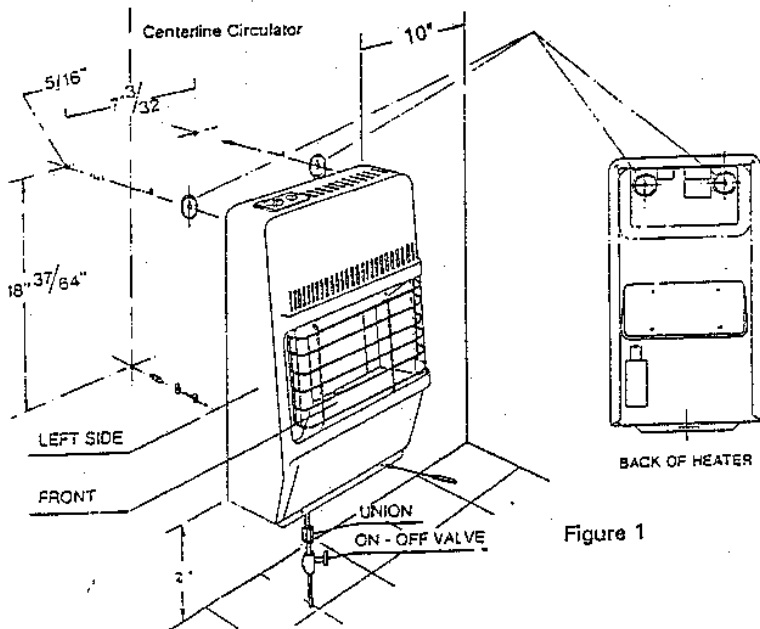

Figure 1
1. Drill three (3) 5/16" diameter holes, located as shown in Figure 1, in the wall where the heater is to be mounted.
2. Position the three (3) plastic expansion anchors, furnished in the installation kit with the heater, into the holes and tap them flush with the wall.
3. Install the two (2) hooks provided in the installation kit into the two (2) upper anchors as shown in Figure 1.
4. Remove the front cover of the heater as shown in Figure 1 using a screwdriver.